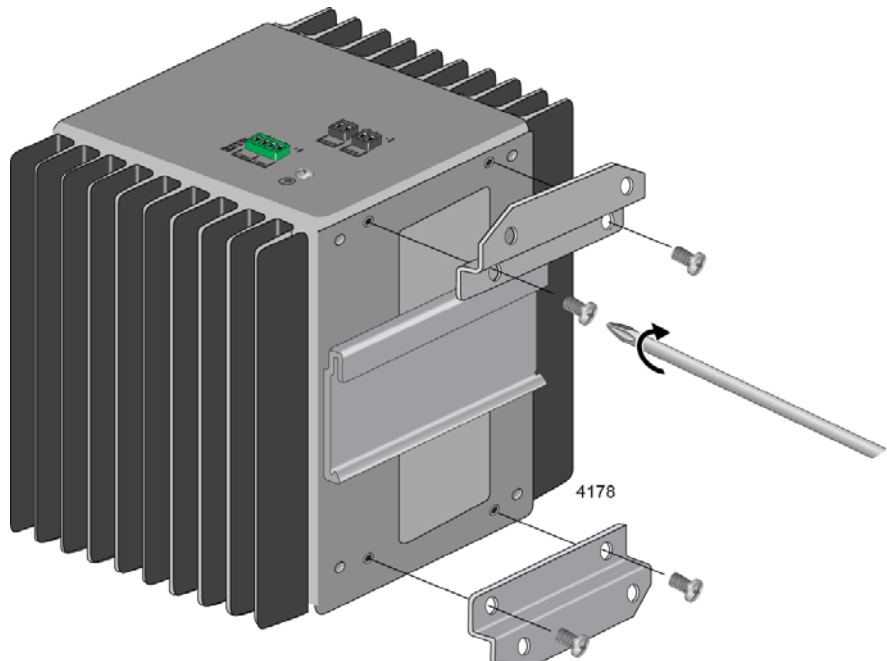

Figure 21. Installing the Wall Brackets on the Switch
2. Install the two wall brackets to the back panel of the switch, with the four screws included with the unit. Refer to Figure 21.
2. Install the two brackets that come with the switch to the back panel of the unit. Refer to Figure 21 on page 69.